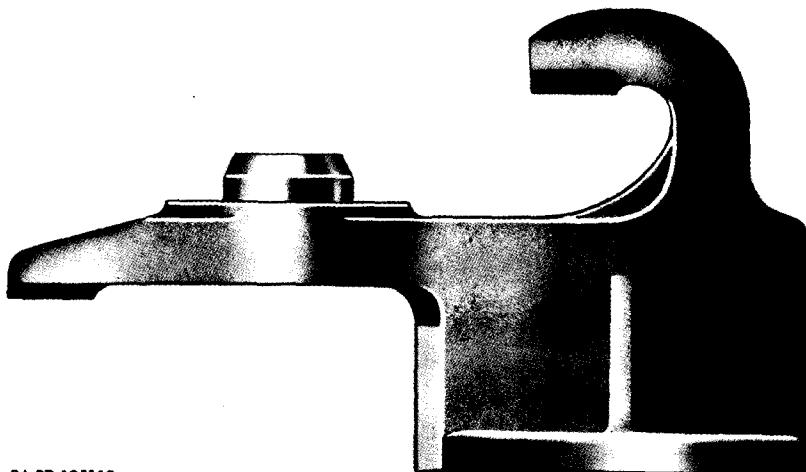

Figure 196. Bracket type dummy coupling.
b. Dummy couplings are made in two general designs, some being fitted with brackets to permit them to be rigidly mounted on the vehicle (fig. 196), while others are fitted with a chain (fig. 197). The bracket-type is used where the dummy coupling is to serve as a fastening for holding hose lines when not in use, whereas the type fitted with a chain